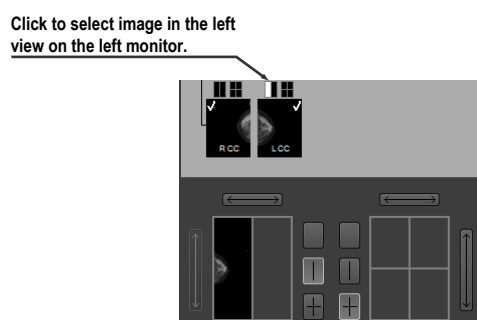

Figure 402 – Selecting an image to view using the rectangle indicator
- Click the desired rectangle in the screen position indicator representing the view in the working area (see Figure 402). The image is displayed in the appropriate view in the mammography workspace on the left or right monitor.